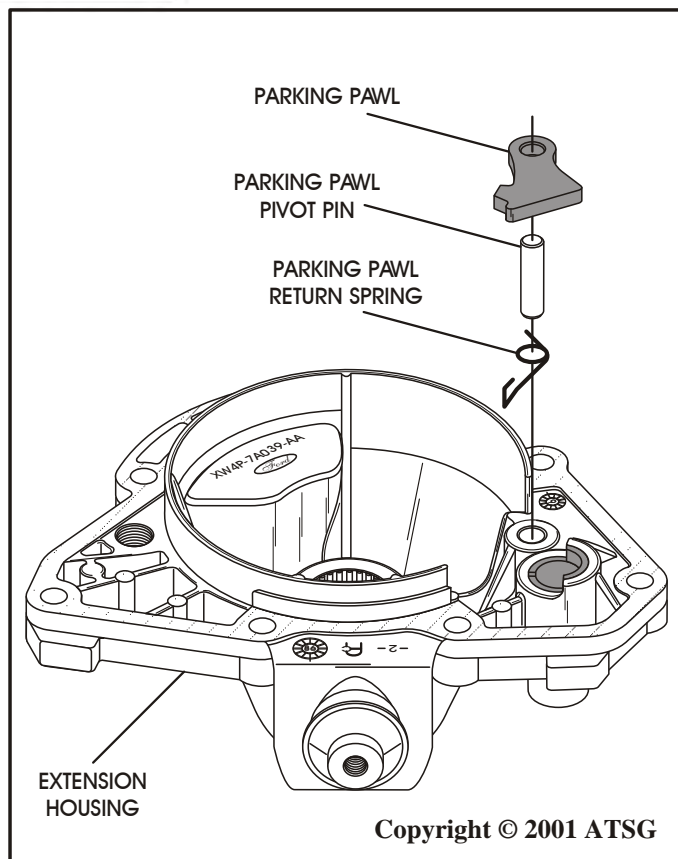

Figure 135
4. Turn the extension housing over to install the parking pawl components (See Figure 135).